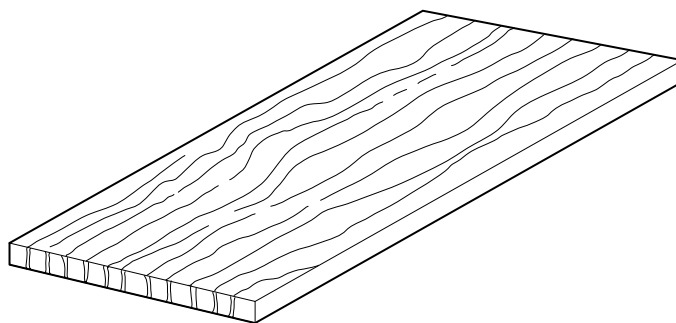

Fig. 4
- 9 Use a sketch to show how you would plane the end grain of the hardwood shelf shown in Fig. 4. [2]